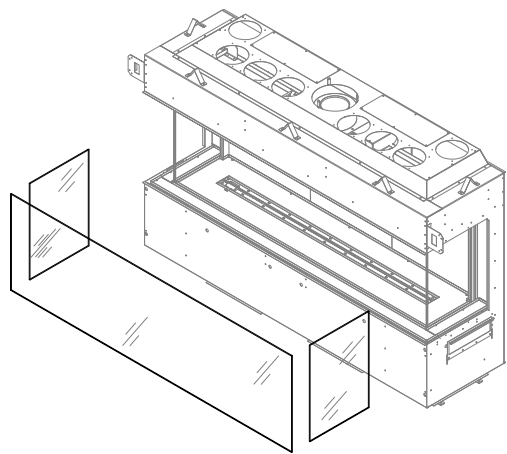

Figure 4.14 - Remove Safety Glass Barrier
2. Remove the safety glass barrier, perimeter media tray, firebox glass, and crushed media. You may find it beneficial to remove the lower glass brackets for increased accessibility. Figure 4.14, 4.15, and 4.16.